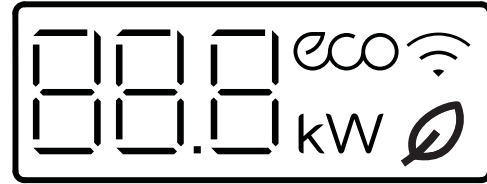

Fig. 10 – Unit Display Functions
- 7 The factory charge contained in the outdoor unit is good for up to 25ft. (8 m) of line length. If vacuum is complete per Fig. 10 or 11, open service valves to release factory charge into the system.